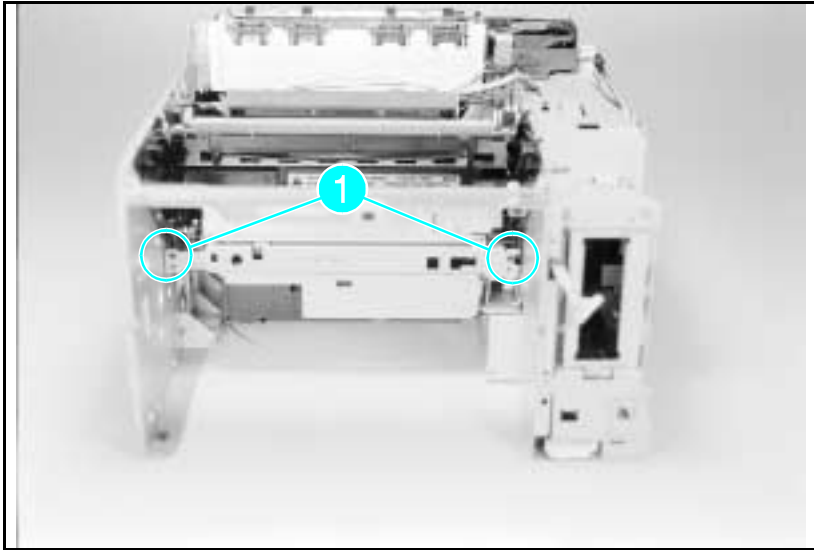

Figure 6-54 **Cross Member Screws**
- 4** From the front of the printer, remove the (2) black self-tapping screws that hold the Inner Cross-member. Remove the cross-member (see Figure 6-54 callout 1).